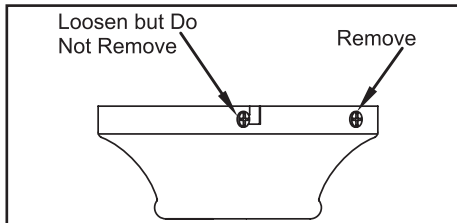

Figure 6
2. Remove the mounting plate from the canopy by loosening the four screws from the top of the canopy. Remove the two non-slotted screws and loosen the slotted screws. This will enable you to remove the mounting plate (Figure 6).
2. Remove the mounting plate from the canopy by loosening the four screws on the top of the canopy. Remove the two non-slotted screws and loosen the slotted screws. This will enable you to remove the mounting plate (Figure 6).